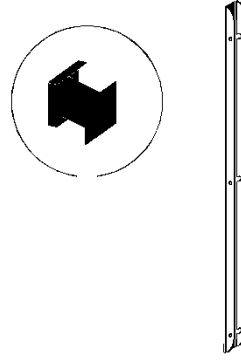

Figure 6. Attaching the Door Stop Bracket
8. Screw the door-stop bracket onto the rear-tie piece. Screws attach from the inner surface of the rear tie and screw into the door stop. See Figure 6.